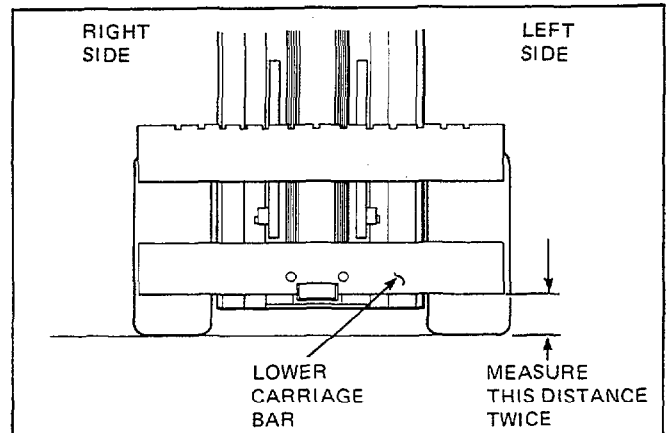

Figure 43. Measuring Carriage Looseness
- Lower the carriage. Stand on left end of lower carriage bar. Measure distance between left bottom of carriage bar and ground. Stand on right end of lower carriage bar and measure distance at same point as before. The difference between the two measurements should not exceed $\frac{1}{4}'' \pm .06$. See Figure 43.